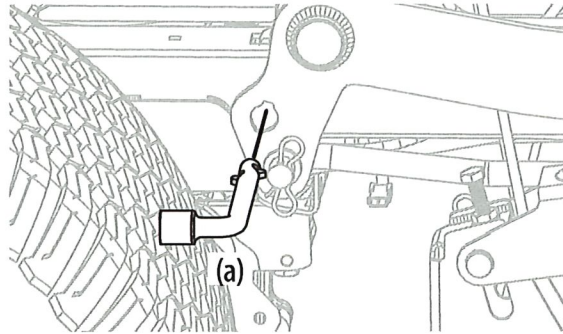

Figure 34
5. Use the deck lift pedal and deck lift knob to place the deck in the lowest position and use the multi-tool (a) to lock the deck lift components in place as shown in Figure 34.